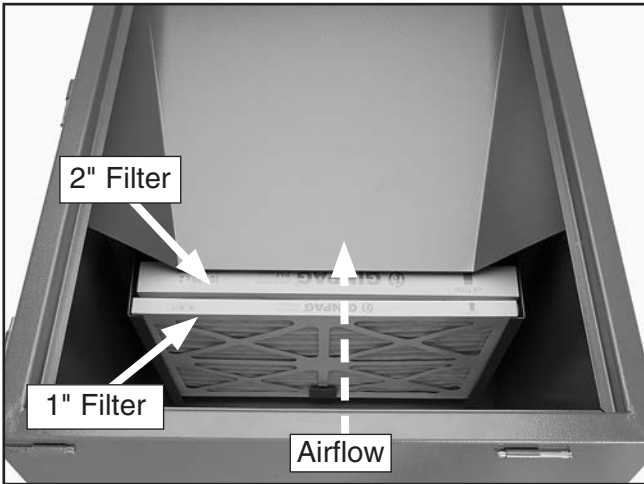

Figure 7. Filters installed in filter bay.
5. Install the 2" thick filter in the filter bay inside the downdraft table cabinet as shown in **Figure 7**, then install the 1" thick filter in front of it.